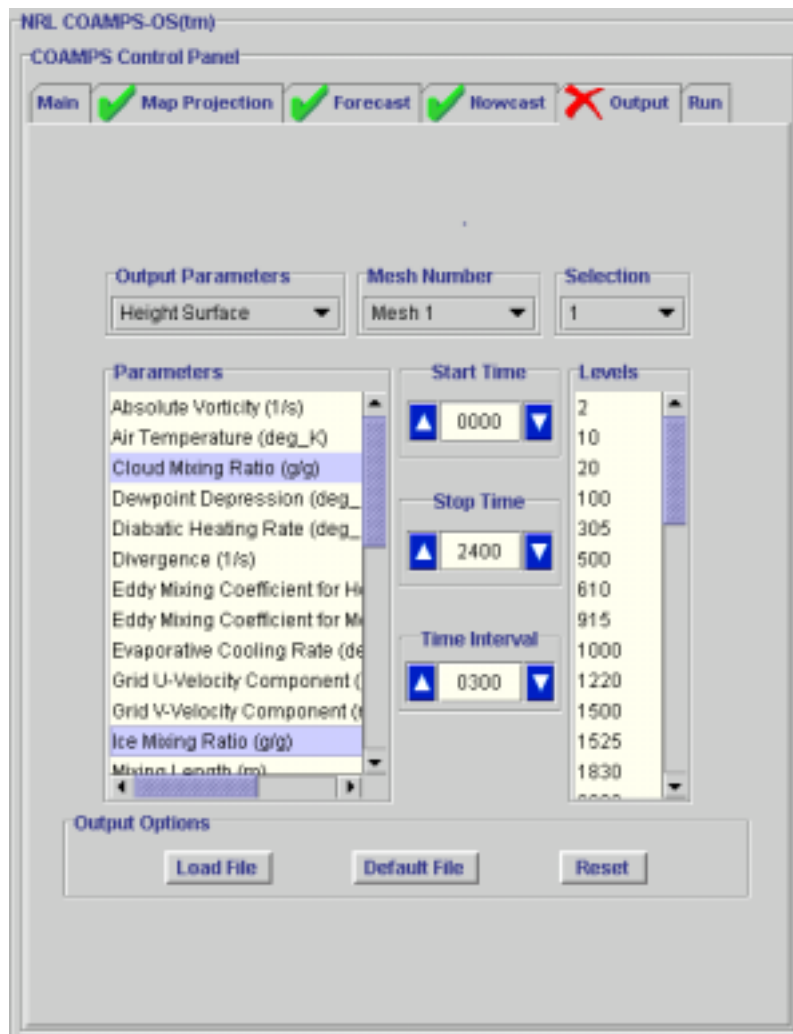

Figure 25. Output Control Panel with Height Parameters selected.
2. Select the desired **Height Surface Parameters**. Single click on each desired parameter. After selecting the height surface parameters, the screen should appear as shown in Figure 25.